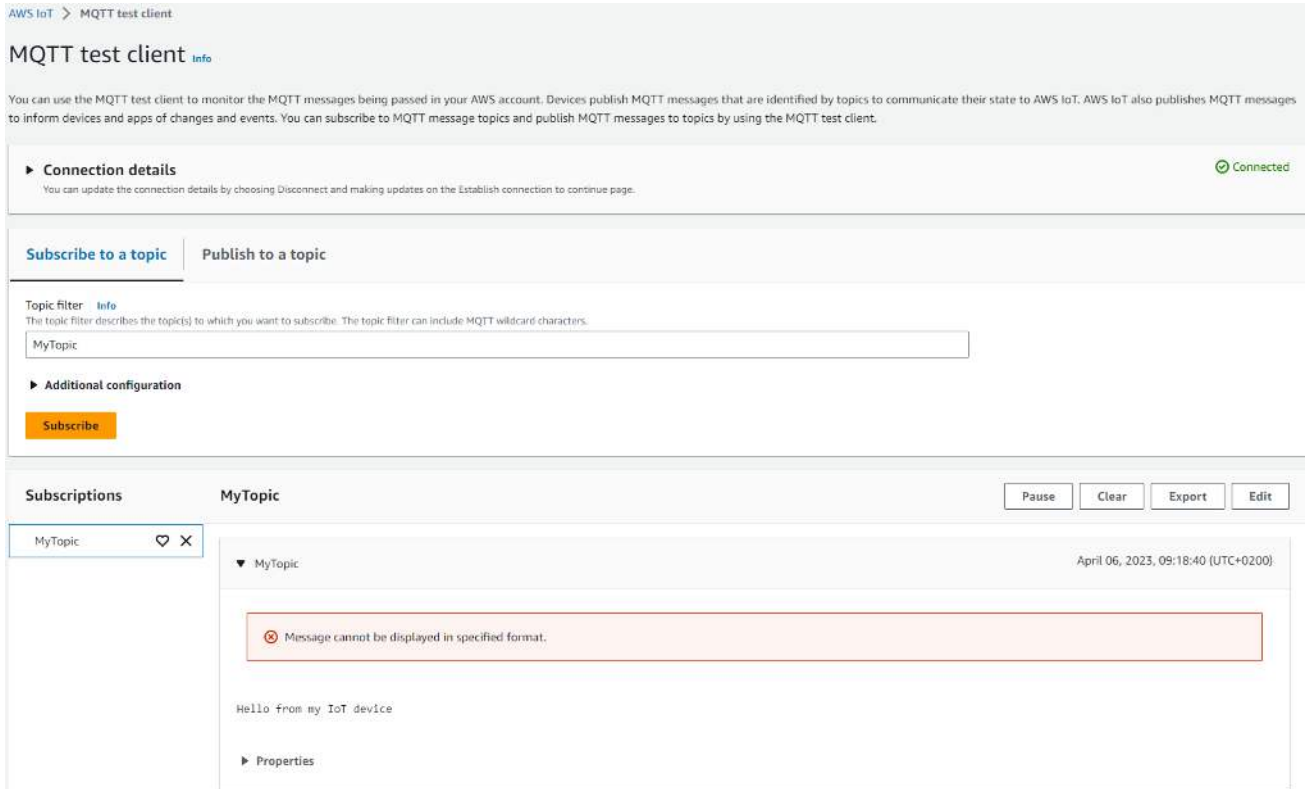

Figure 3: Subscriptions on MQTT test client in AWS IoT console
3. Check that the message “Hello from my IoT device” is now displayed on the AWS IoT console under the topic “MyTopic”, as shown in Figure 3.